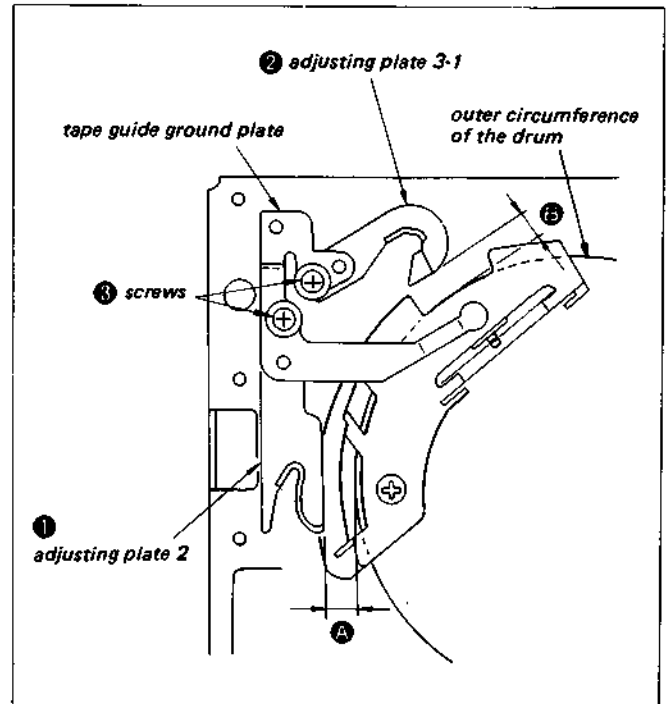

Fig. 3-13 Measurement of the position of adjusting plates 2 and 3-1
- 3) Remove the screws **3** shown in Fig. 3-13, then remove the tape guide ground plate and adjusting plates 2 and 3-1.
Proceeding in the same manner as in replacement of the drum assembly, measure the width of the gap between the upper drum and the adjusting plates (Fig. 3-13).